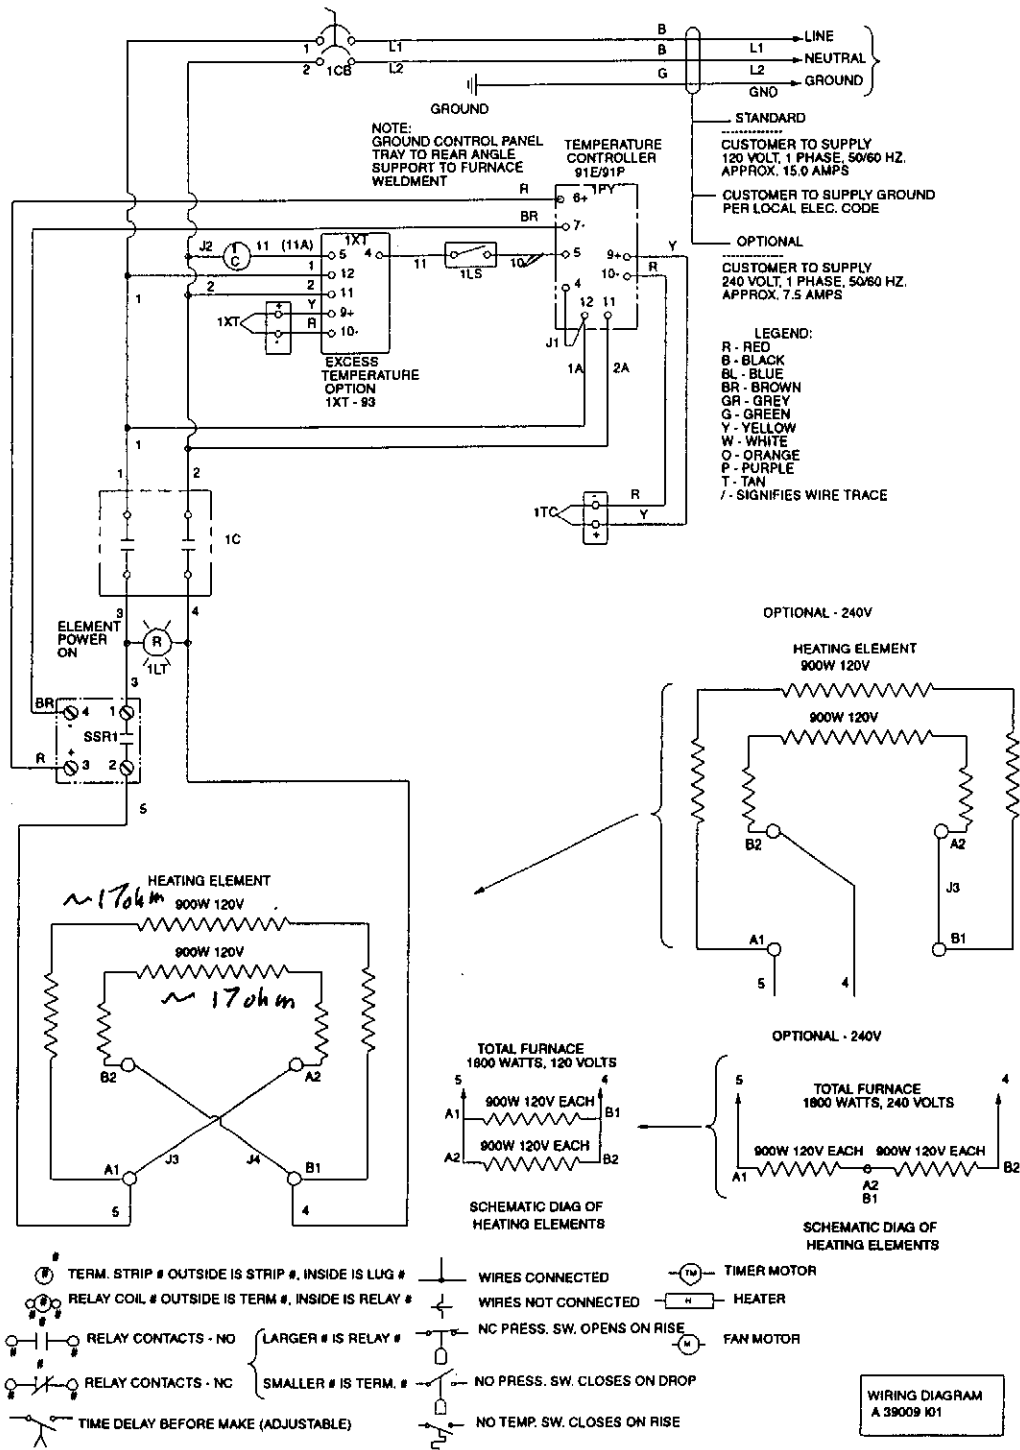

Figure 12. BF51748A, BF51748C, BF51848A, and BF51848C
5. Install the replacement instrument by reversing the above procedure. For models BF51848A, BF51866A, BF51894C, and BF51828C, refer to the Instrument Terminal Connection shown in the wiring schematic (Figure 12 on page 18, Figure 14 on page 20, Figure 16 on page 22, or Figure 18 on page 24) for controller terminal connection.